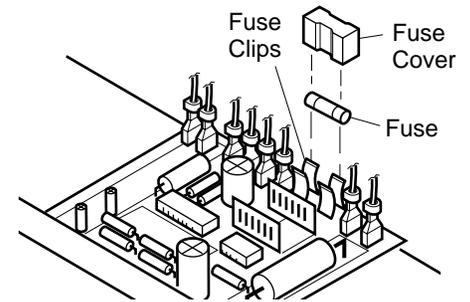

Figure 20 - Replacing Fuse
2. Remove side cover screws (4) using 5/16" nut-driver to expose ignition control assembly.
3. Remove fuse cover (see Figure 20).